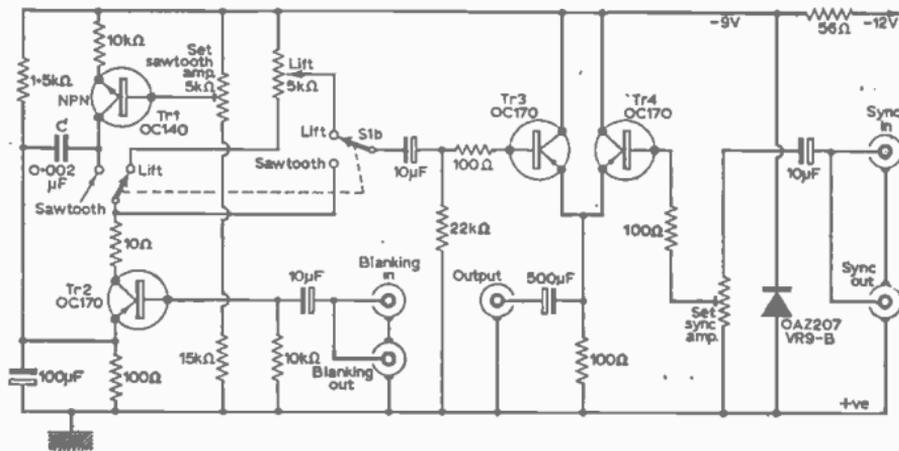

Fig. 4—Test waveform generator supplying sawtooth or variable lift waveform.
THE test waveform generator (Fig. 4) supplies either a sawtooth or a variable lift waveform. (Note that unless otherwise mentioned the pulses referred to are from the fully interlaced and critically timed pulse generator, but any important difference due to the
use of a simple pulse generator will be mentioned.) When the switch S1 is in the sawtooth position (Fig. 4) the capacitor (C) is charged through Tr1. The rate of charge depends on the bias on the base of the transistor; this controls amplitude of the sawtooth. Blanking pulses (the same as syncs with a simple pulse generator) are applied to Tr2 and cause it to conduct heavily and so discharge the capacitor (C). Thus we have the sawtooth waveform as in Fig. 5b. It is mixed with syncs (Fig. 5c) in the common load of Tr3 and 4, the result being shown in Fig. 5d. The sync amplitude is controlled by a potentiometer in the base circuit of Tr4. In the lift position blanking pulses are amplified and the amplitude set by the position of the lift potentiometer. Then syncs are added as before (Fig. 5e). This design uses OC170s where shown, but as these are being driven fairly hard one should always increase the sawtooth and sync amps from zero (the sawtooth zero amplitude is with the slider at the negative supply end of its travel) until the required amplitude is reached. Otherwise one might easily destroy the transistors. MAT101s have been used with success and are more robust but more expensive.